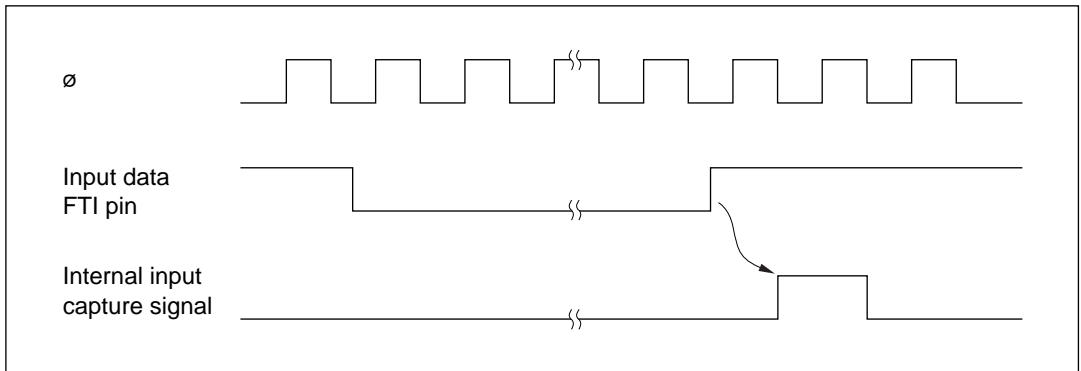

Figure 8-8 Input Capture Timing (Usual Case)
(1) **Input Capture Timing:** An internal input capture signal is generated from the rising or falling edge of the signal at the input capture pin FTIx ($x = A, B, C, D$), as selected by the corresponding IEDGx bit in TCR. Figure 8-8 shows the usual input capture timing when the rising edge is selected (IEDGx = 1).